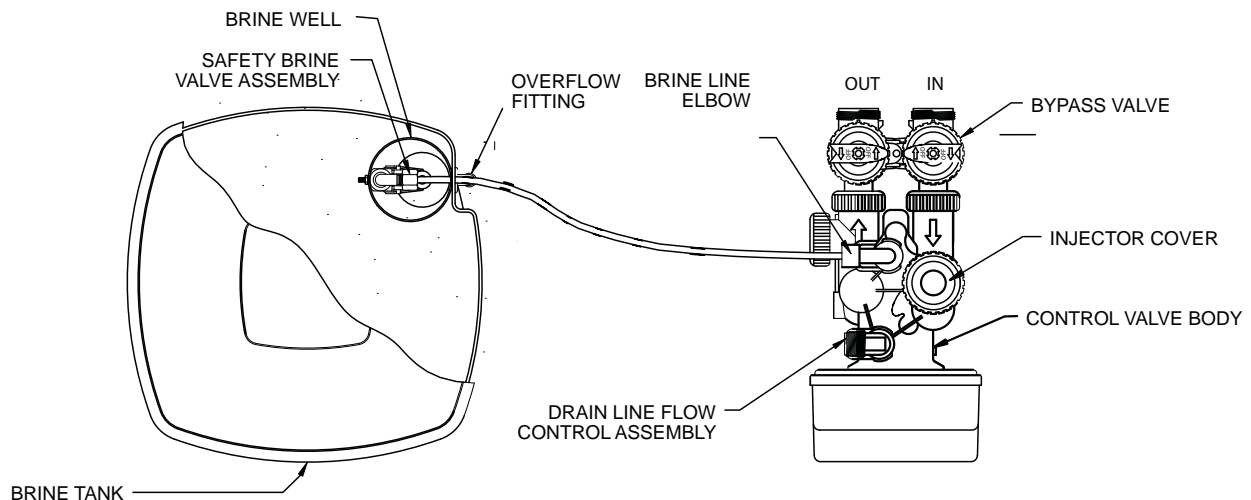

Figure 2. SOFTENER AND BRINE TANK ASSEMBLY, TOP VIEW
Step 10) Install OVERFLOW LINE to brine tank OVERFLOW FITTING (Figure 2). Discharge of line must be lower than OVERFLOW FITTING. DO NOT INTERCONNECT OVERFLOW LINE WITH VALVE DRAIN LINE.